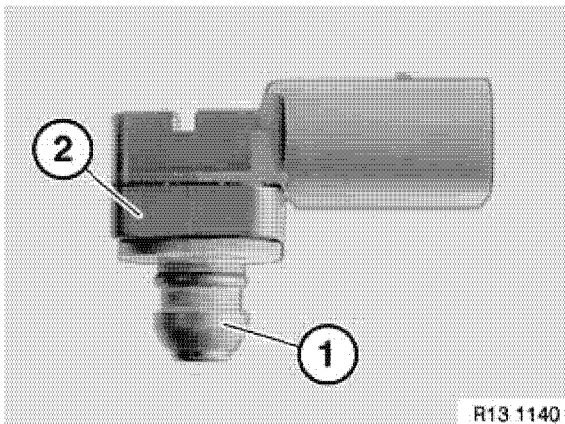

Figure 12-26
4. Install new sealing ring (1, **Figure 12-26**) before installing sensor (2, **Figure 12-26**).